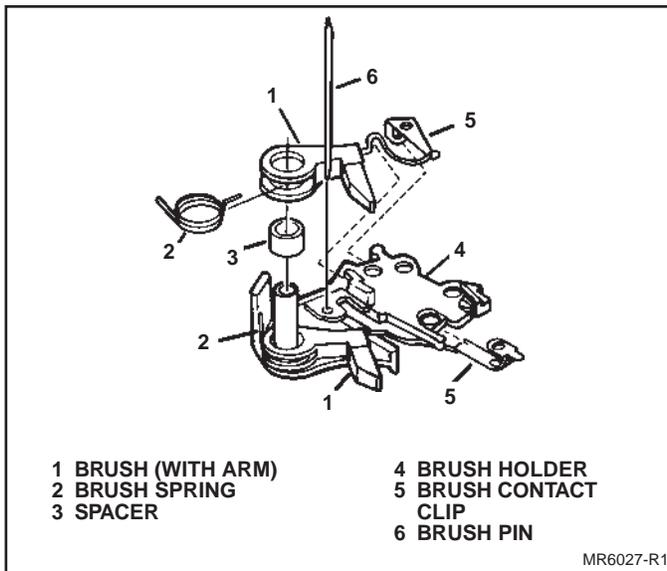

Figure 28. Assembly of Brush Holder
- Brush assemblies (with springs) and spacer to brush holder (Fig. 28). Brushes are identical, but leads and contact clips are positioned differently. Pin brushes in retracted position.